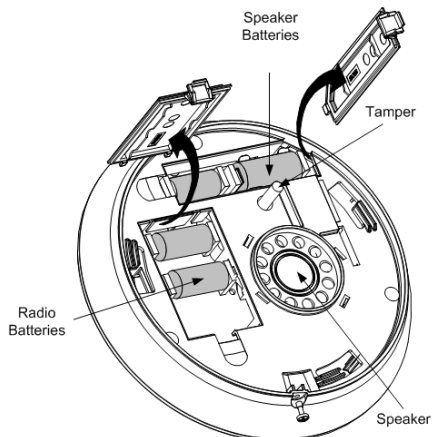
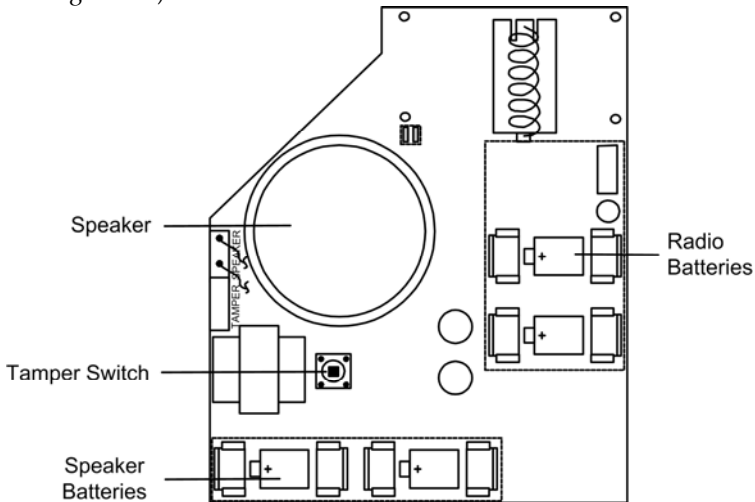

Figure 3-2: Inserting the batteries
Figure 3-3: Inserting the batteries #2
4. Insert the batteries while paying attention to polarity (see Figure 3-2 and Figure 3-3).